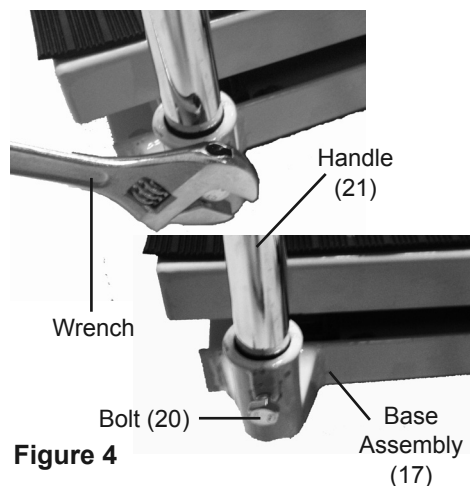

Figure 4
4. Slide the ends of the Handle (21) into the handle slots on the Base Assembly (17). Use the wrench to tighten the Bolts (20) until Handle is securely fastened in place. See Figure 4.